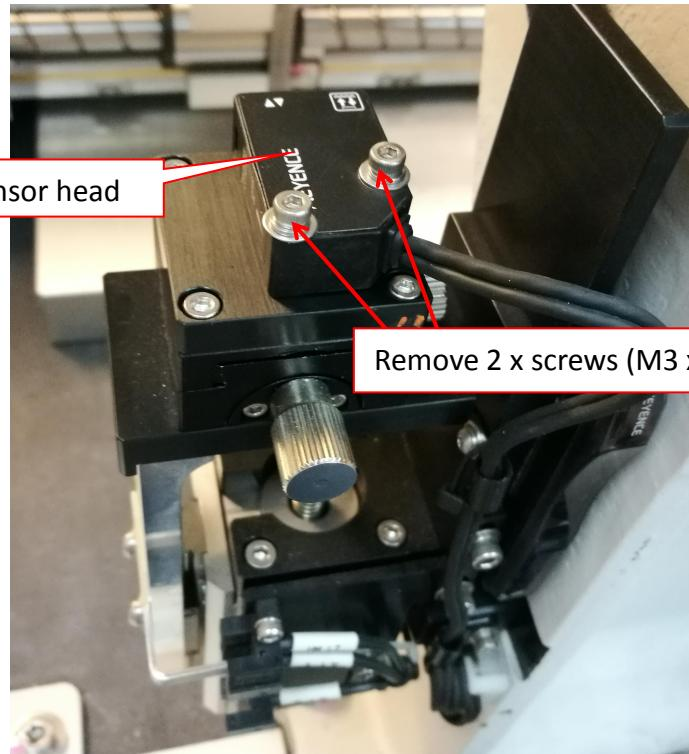

Figure 25 Laser head removal
4. Remove 2 x screw (SHCS M3 x 20) & laser sensor head as shown in Figure 25.